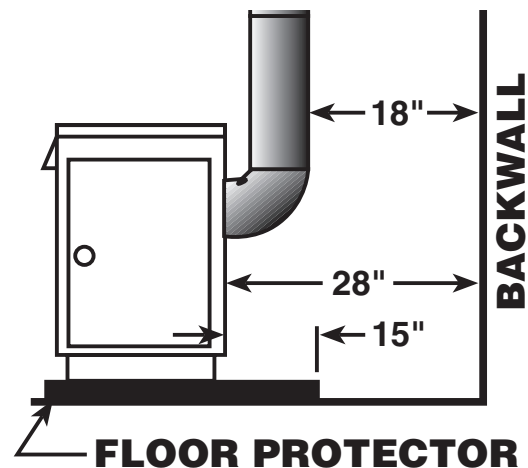

*Fig. 4 – Top View
3. After observing the clearances to combustible materials (figures 4 & 5), locate your floor protector accordingly (figure 3) and carefully place the stove in your selected location. Install stove pipe, elbows, and thimble as required, utilizing either a recently cleaned and inspected 6" masonry chimney or a 6" i.d. listed chimney.